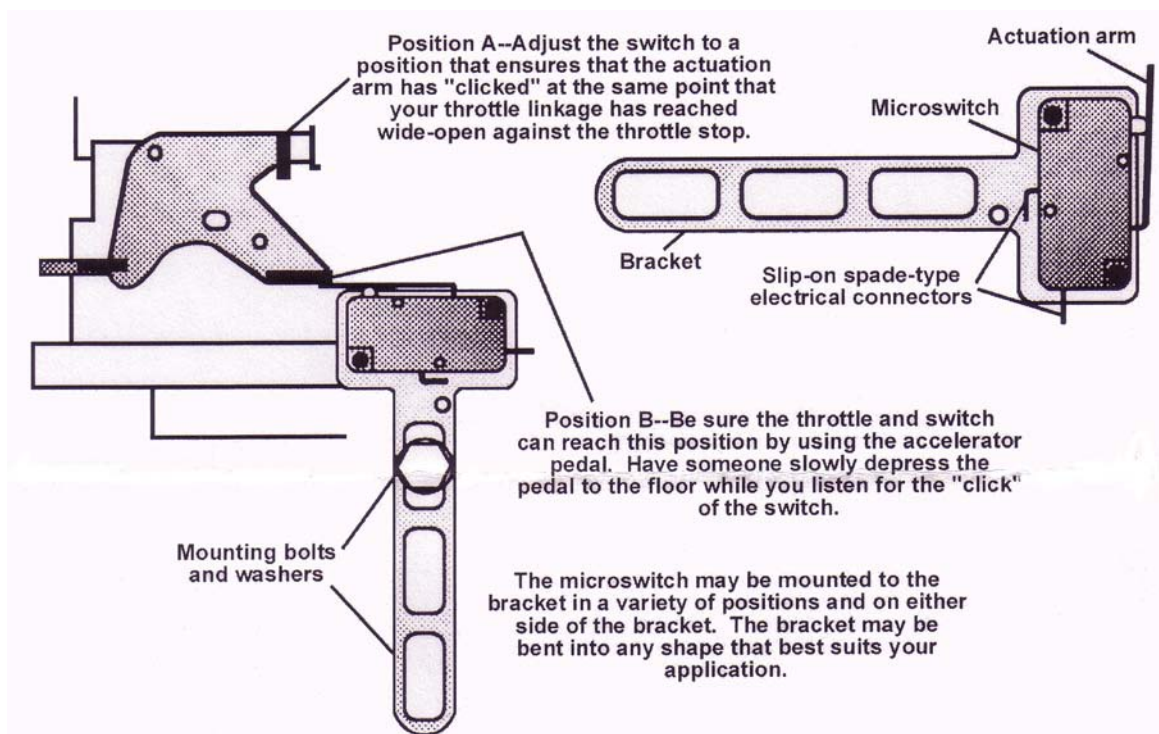

FIG. 10
- 2) Install the throttle micro switch (17) as follows: Hint, the micro-switch may be mounted to the bracket in a variety of positions and on either side of the bracket. The bracket may be bent to suit the application. **WARNING! Binding or dragging of the throttle linkage will create a potentially dangerous stuck-throttle condition. Ensure that the micro-switch does not interfere with the normal operation of the throttle linkage operation.**
- b. Adjust the micro-switch to trigger at wide-open throttle by adjusting the micro-switches position to ensure the actuation of the micro-switch "clicks" at the same point the throttle linkage reaches wide-open throttle against the throttle stop (figure 10, position A).
- c. Ensure that the throttle and switch can reach the activation position, as shown in figure 10, position B, by using the accelerator pedal. Have an assistant slowly press the pedal to the floor while you listen for the "Click" of the micro-switch.
- 3) Install the arming switch (18) in the vehicle interior, within easy reach from the drives seat. This switch will put power to the entire system. CAUTION! Never activate your nitrous system below 3000 RPMS as doing so could damage your engine.
- 4) Install the relay (19) and the relay harness (20) in the engine compartment near the battery.